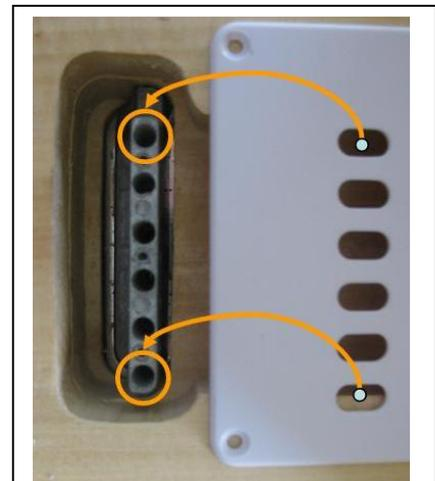

Figure 2.7 Back Body Cover Alignment
2.7 Fit check of the Tremolo cavity Cover (Fig 2.7)